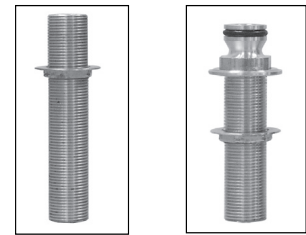
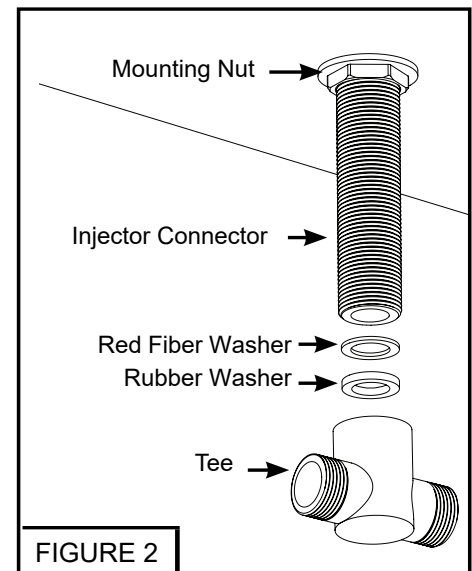

FIG.1-1
FIGURE 2
1. Provide a 1-1/4" hole in the deck for spout. To install the spout, insert injector connector through hole in deck. Injector connector will connect to spout as thread-on or single o-ring (see Fig. 1-1). Place mounting nut over the injector connector and tighten from the underside of deck as shown in Figure 1. For 3-hole units without handshower/diverter, install tee connection as shown in Figure 2.